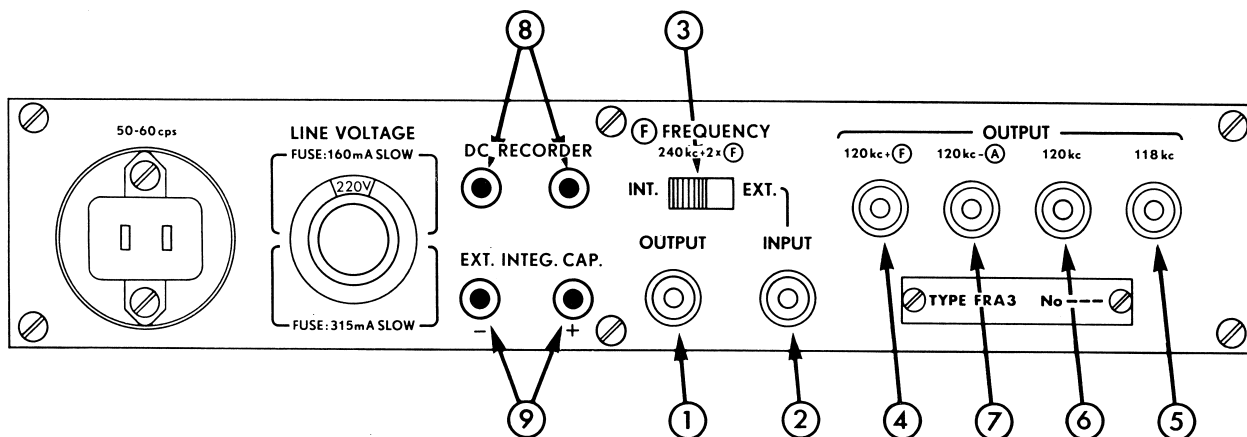

Fig.8. Rear panel of the Wave Analyzer, type FRA3.
The six rear panel terminals are all of the BNC type (See Fig.8). The terminal, 240 kc + 2 F OUTPUT (1), always carries the F-oscillator voltage independently of switch settings. About 3 V rms are available from a 25  $\Omega$  source.
As seen in Fig. 8, all three are located on the rear of the instrument. Use 1 160 mA slow-blow fuse for a line voltage between 200 and 240 volts and a 315 mA for 110 - 127 volts operation. The Wave Analyzer, type FRA3, is set to a line voltage of 220 volts when leaving the factory and is furnished with 2 corresponding fuses.